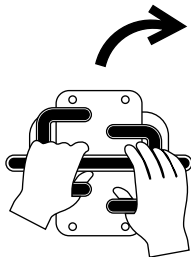

Figure 12
- To turn right, move the left traction control forward (Figure 12).